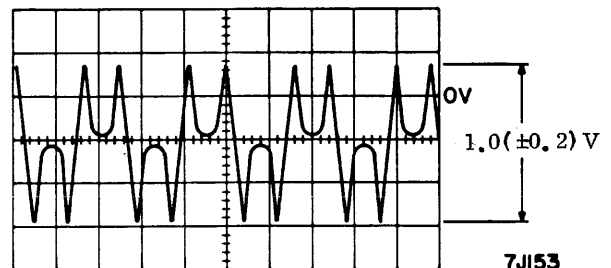

Figure 3-11. Track Servo Amplitude
6. Observe waveform similar to Figure 3-11. Move carriage to position near cylinder 000